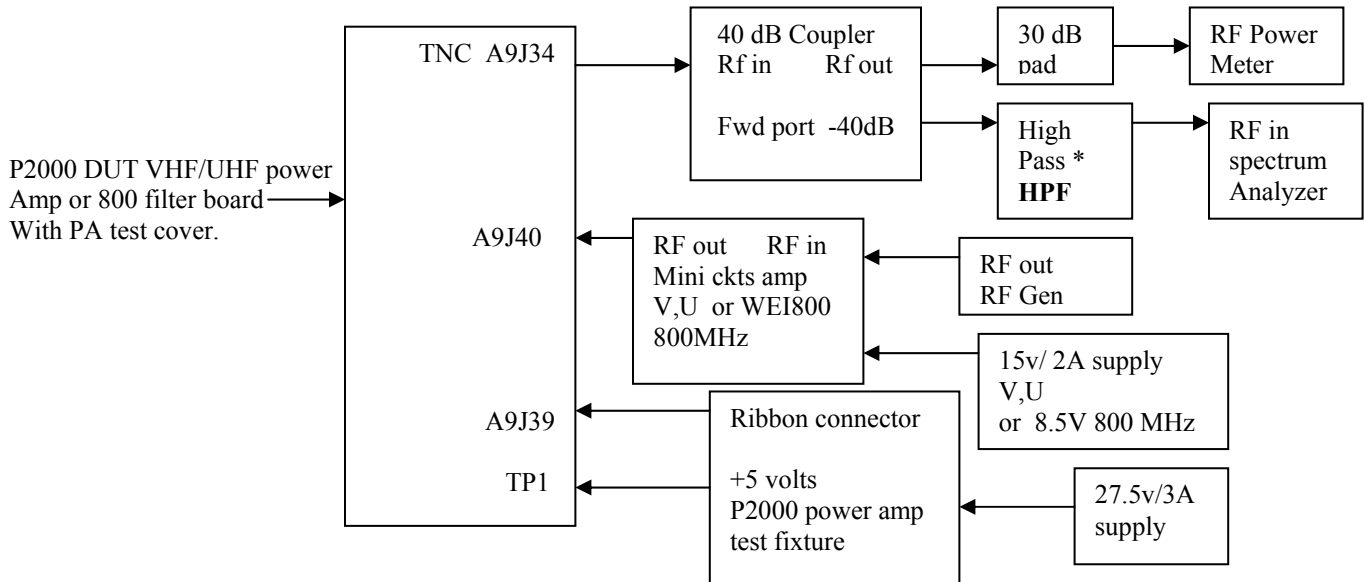

Figure 1.4 CW and Harmonic power setup
| Figure 1.4 CW and Harmonic power setup.....                                               | 6        |
- 1.7 Connect the setup in figure 1.4 below and set up the analyzer as follows: **resolution bandwidth** for **10 kHz**, the **attenuation** to **10 dB**, the **reference level** to **20 dBm**, \*Do not connect the **High Pass** filter up at this point For VHF and UHF boards set the generators RF output power to +3 dBm and for 800 boards set to +17dBm when driving with the WEI800 amp module with the 8.5 volt power supply. Use the same start/stop frequencies from step 1.5. \*The **HPF** filter is not used in 800 tests.